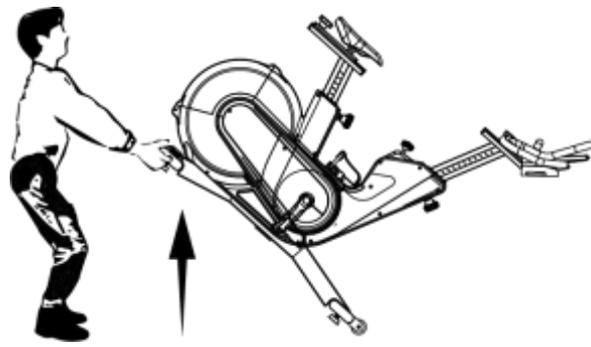

figure 2
- 4) Once the rear side is tilted enough, you can start to move the bike by the front transportation wheels as in figure 2.